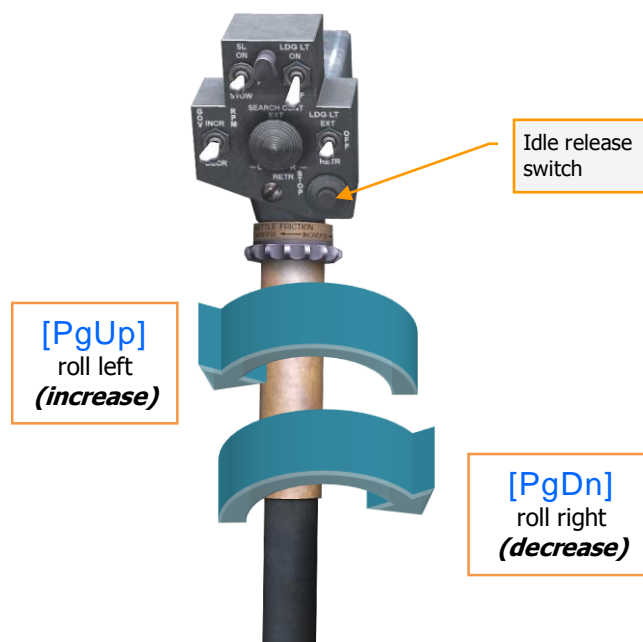

Figure 9.1. Direction of rotation of the throttle
- a) Roll the throttle fully left (increase) (Figure 9.1) from FULL CLOSE (Figure 9.2, 1) to FULL OPEN position by pressing and holding [PgUp].